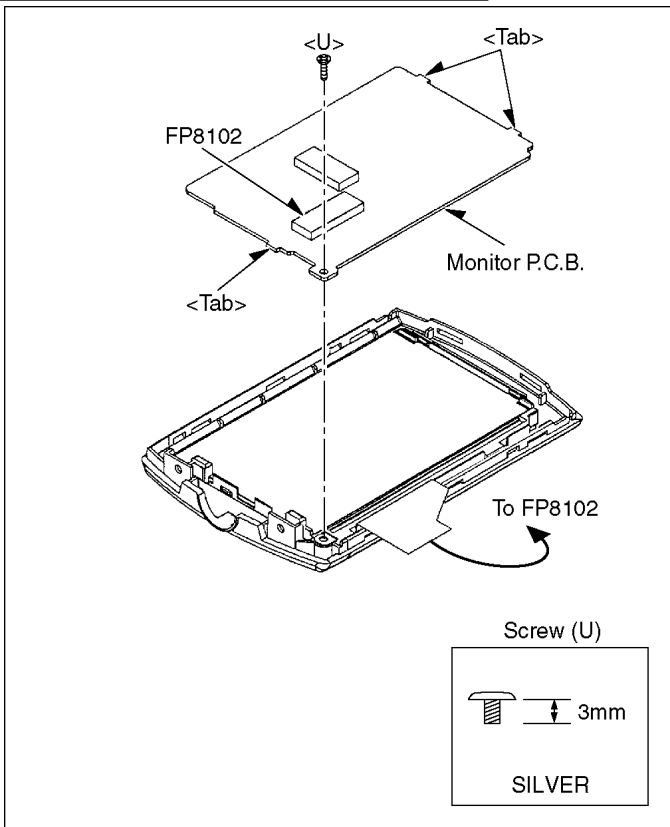

Fig. D16
| 12 | Monitor P.C.B. | Fig. D16 | 1-Connector FP8102 1-Screw (U) 3-Tabs Monitor P.C.B. |